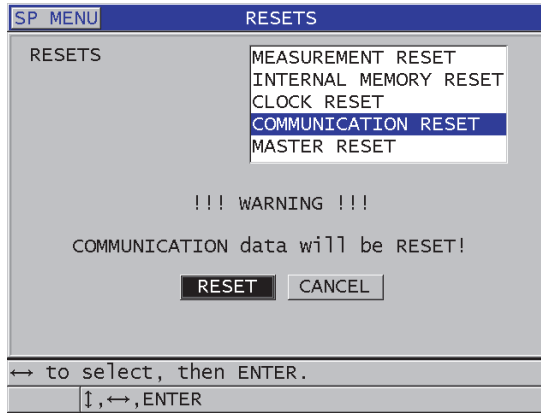

Figure 14-13 Selecting the **COMMUNICATION RESET**
3. In the **RESETS** screen (see Figure 14-13 on page 282):